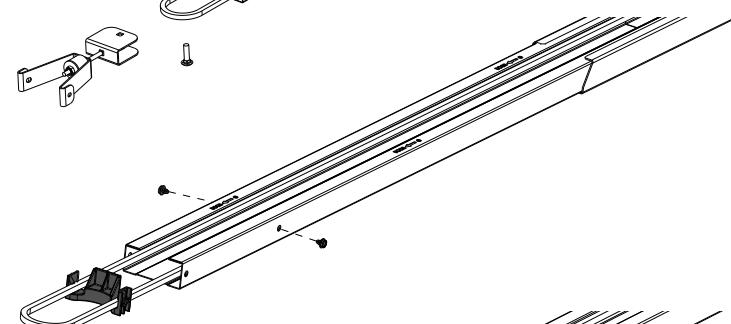

Fig. 3
3. Remove the pulley guard screws and slide the pulley guard out of the rail end. Fig. 3